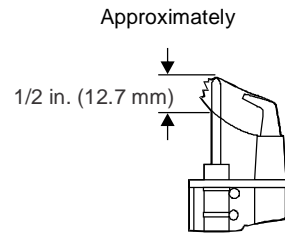

Figure 3: Flame Position
- A flame approximately 1/2 in. (12.7 mm) high must surround the thermocouple tip (Figure 3).